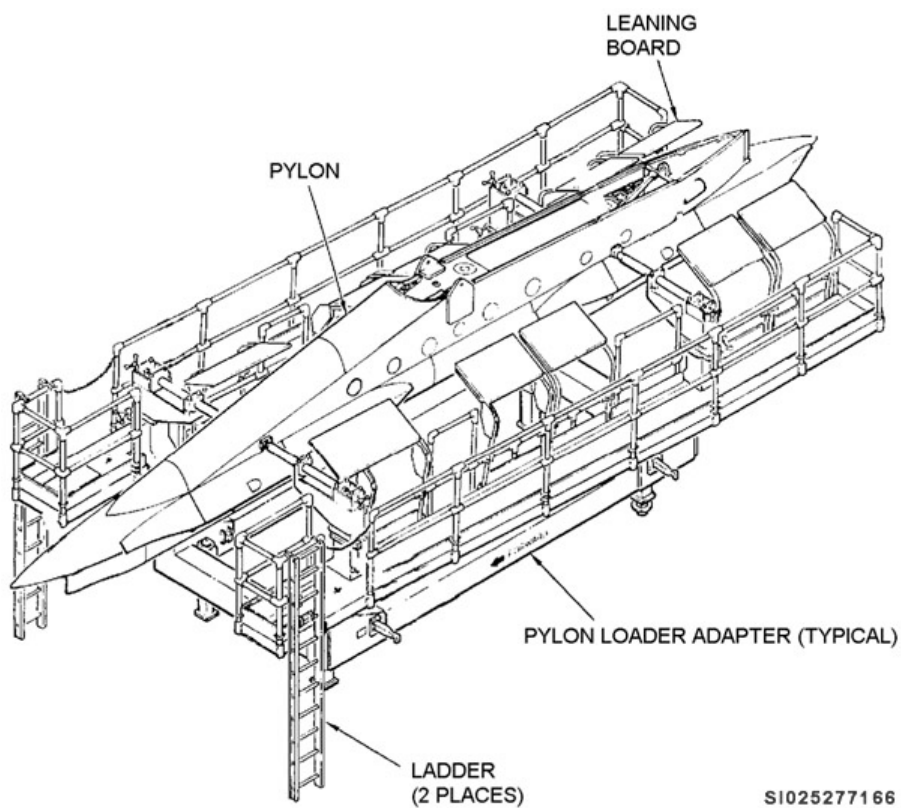

Figure 3-8. PLA with ladders installed.
4. Install ladders on the PLA. These ladders are stored under the catwalks of the PLA, and are held in place with quick-release pins (fig. 3-8).